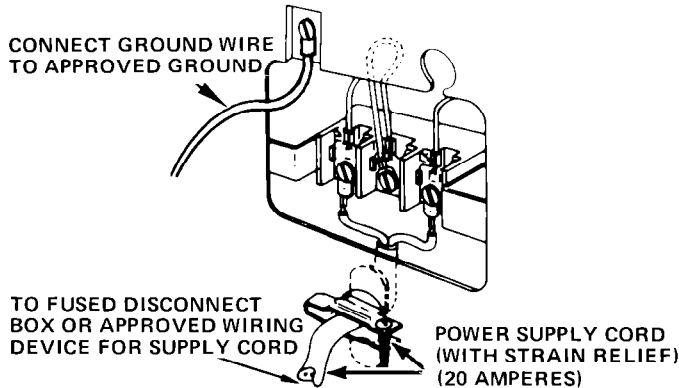
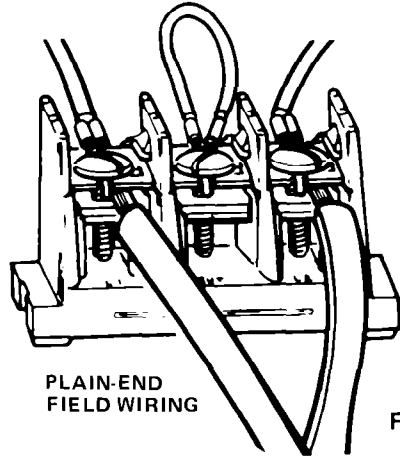

Figure 2
Figure 4
2. Connect the two wires of the power supply cord to the outer terminals of the terminal block. See Figure 2. For connecting plain-end field wire, see Figure 4.
4. Connect the free end of the external ground wire to a grounded cold water pipe* by means of the clamp on the free end of the ground wire. DO NOT ground to a gas supply pipe. Do not connect the power supply cord to electric power supply until appliance is permanently grounded. See Figure 2 and 3
NOTE: Plain-end field wires must be fastened between the terminals of the terminal block and the nuts of the terminal block screws as shown in Figure 4.